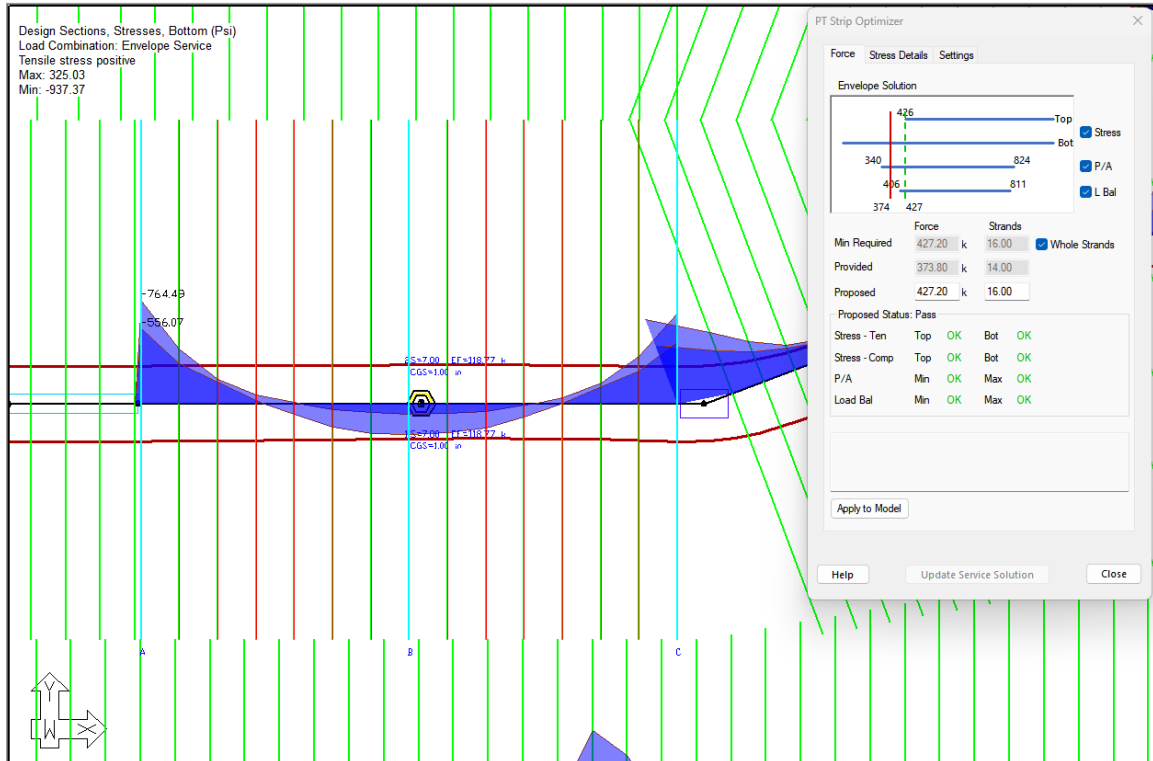

FIGURE 9-100
- We can then check the bottom stresses to see if the correct controlling section is highlighted. As shown in **FIGURE 9-100**, the controlling section highlighted is the controlling section.